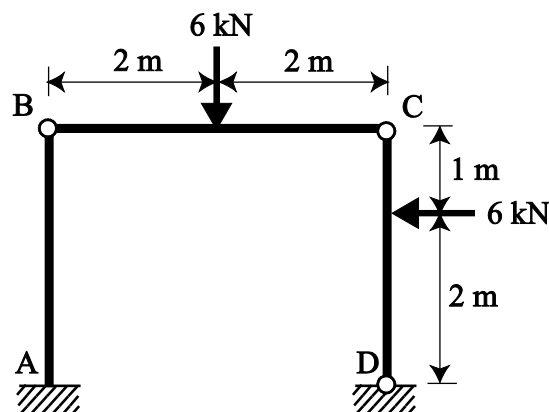

Figure 9
- * 9. The plane frame shown in Figure 9 consists of three bars connected by frictionless pins at B, C and D. At A the vertical bar is built into the rigid base
- Repeat for the same structure, but now sustaining a horizontal force of 6 kN acting to the right on member AB at a height of 2 m above the base, in addition to all the loads shown in Figure 9.